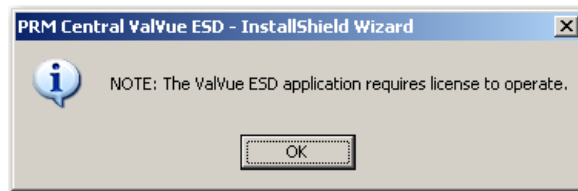

Figure 15 PRM Central Server Dialog
11. A *Launch Service Install* dialog appears; click **OK** and a dialog appears (Figure 15).